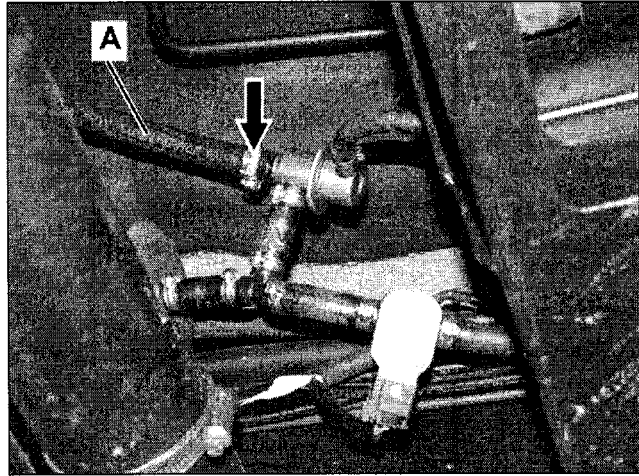

Figure 9
10. Connect fuel return fuel hose (A, Figure 9) to pressure regulator secure with **new clamp** (arrow).